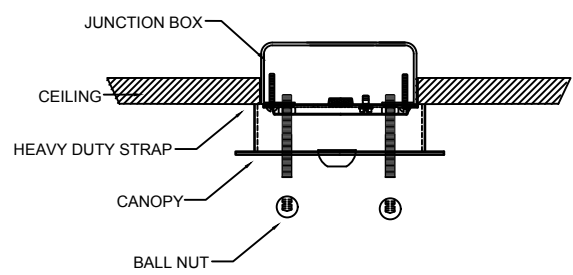

FIGURE-03
- Pull up & attach the canopy to the heavy duty strap and secure it with ball nuts. (See Figure-03)